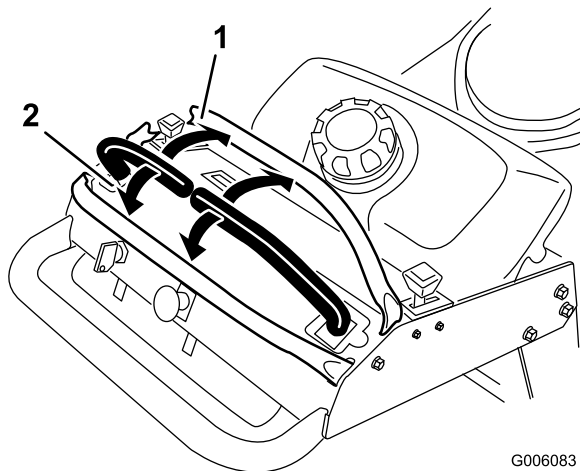

Figure 9
3. To go forward, slowly push the motion control levers forward (Figure 9).
To go straight, apply equal pressure to both motion control levers (Figure 9).
To turn, move the motion control lever toward neutral in the direction you want to turn (Figure 9).
2. To go backward, slowly pull the motion control levers rearward (Figure 9).
To turn, release pressure on the motion control lever toward the direction you want to turn (Figure 9).